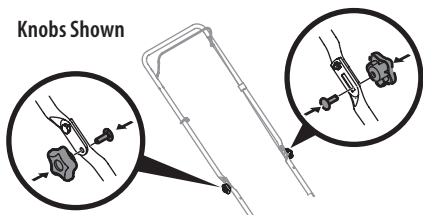

Figure 5
7. Reattach knobs or wing nuts and carriage bolts removed in STEP 2 into lower holes of the handle (Figure 5).